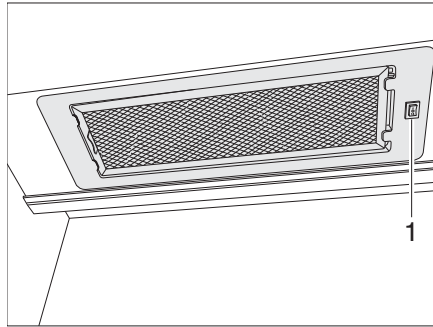

Fig. 137 Extractor hood
- Use the switch (Fig. 137,1) to turn the extractor hood on and off.